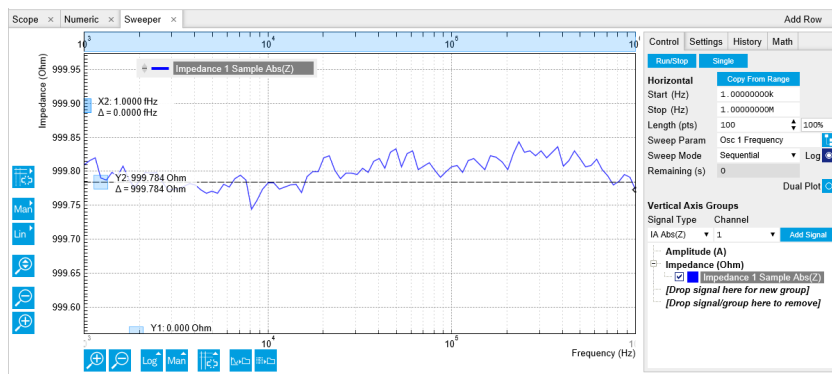

Figure 4.36: LabOne Sweeper showing the frequency dependence of a 1 kΩ DUT
Start the frequency sweep by clicking on **Single**. The screenshot in Figure 4.36 on page 72 shows the measurement in the plot section of the Sweeper tab. It shows a perfectly flat curve for the real part of the impedance Abs(Z) within 0.05% of 1 kΩ as is indicated with the cursor for the vertical axis. Whereas our 1 kΩ DUT has no notable frequency dependence between 1 Hz and 1 MHz, very large or small resistors will typically show a change in Abs(Z) towards high frequencies due to the spurious capacitance or inductance.